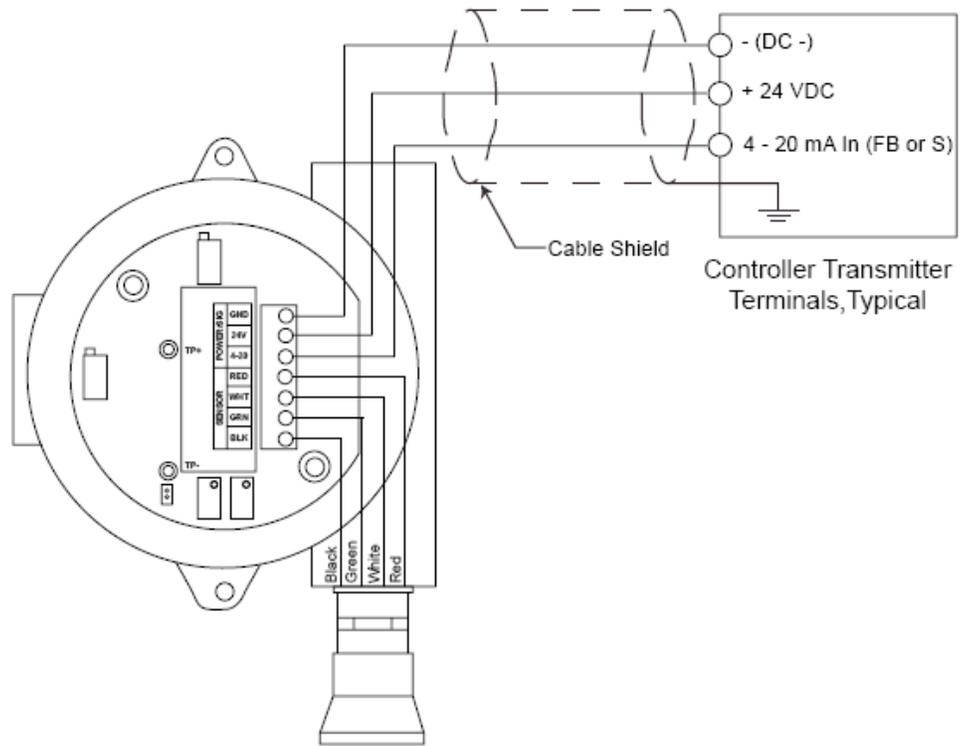

Figure 3: Wiring the Combustible Gas Transmitter to a Controller
6. Connect the three wires to the interconnect terminal strip as follows (see Figure 3).
- Connect the feedback wire to the **4-20 (FB)** terminal.
9. Connect the wires to the applicable transmitter terminal strip at the controller as shown in Figure 3 below. If shielded cable is used, connect the cable's drain wire to an available chassis ground at the controller.
7. Connect the sensor leads to the interconnect terminal strip as shown in Table 2 below and Figure 3 on page 9 of this manual.
10. Reconnect the wiring that connects the controller to the combustible gas transmitter at the amplifier's interconnect terminal strip as shown in Table 3 below and Figure 3 on page 9 of this manual.
12. Reconnect the detector leads to the amplifier's interconnect terminal strip as shown in Table 4 below and Figure 3 on page 9 of this manual.
13. Connect the sensor leads to the interconnect terminal strip as shown in Table 2 above and Figure 3 on page 9 of this manual.